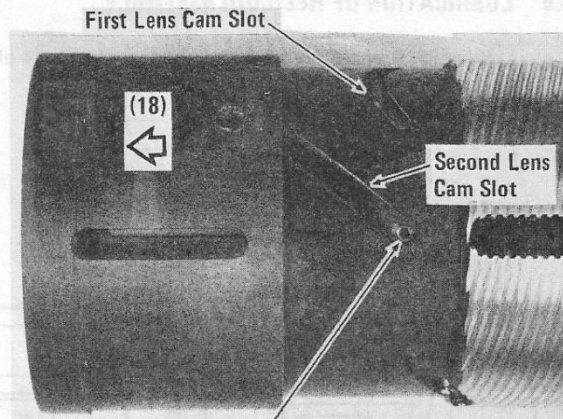

FIG. 4-14
- f) Install 2nd lens roller shaft (39) and roller (38) through slot in 1st lens slide housing and into roller shaft hole in 2nd lens slide housing. Fig. 4-14 and 4-13.
b) Slide 1st lens group slide housing (29) off inner helicoid as shown in Fig. 4-14.